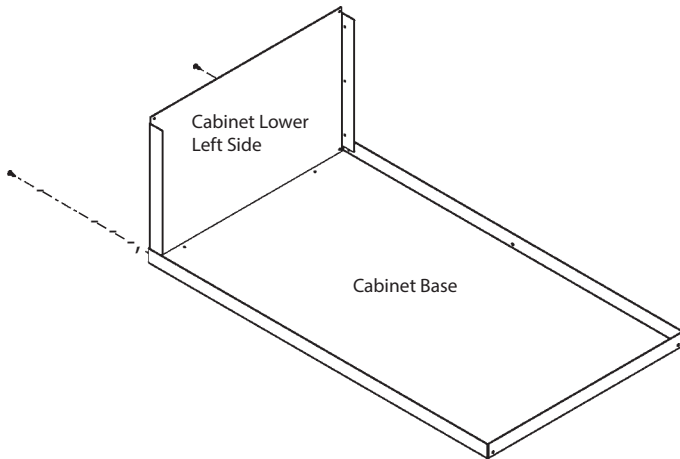

Figure 6.1
1. Assemble cabinet lower left side to cabinet base using 2 screws. See Figure 6.1.